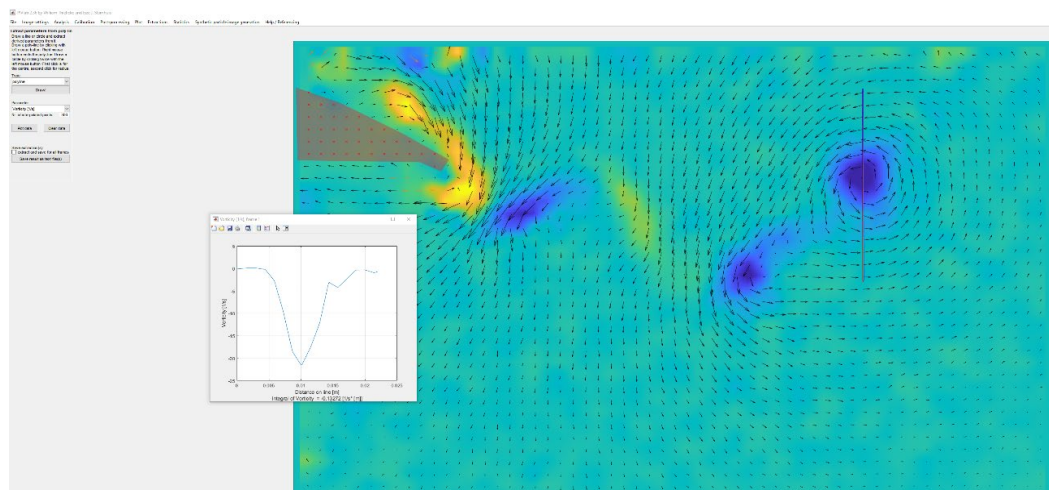

Fig. 8 – Extraction of vorticity profile through a region of interest
- You may click on Plot data to show the profile (Fig. 8).